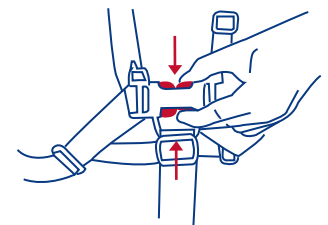

Figure 12c.
- To release, apply pressure to both sides of each male clip until the clip is released. See figure 12c. This process requires a moderate amount of effort so as to prevent an accidental release by your child.